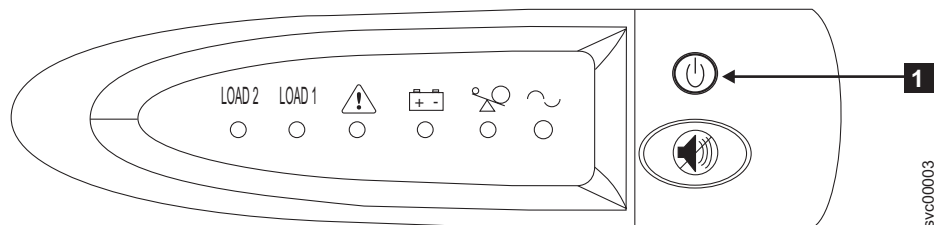

Figure 226. The 2145 UPS-1U front-panel assembly
1. At the front of the 2145 UPS-1U, press and hold the on/off button (**1** in Figure 226) until the power light is extinguished (approximately five seconds). On some versions of the 2145 UPS-1U, you need a pointed device, such as a screwdriver, to press the on/off button. The 2145 UPS-1U enters standby mode.